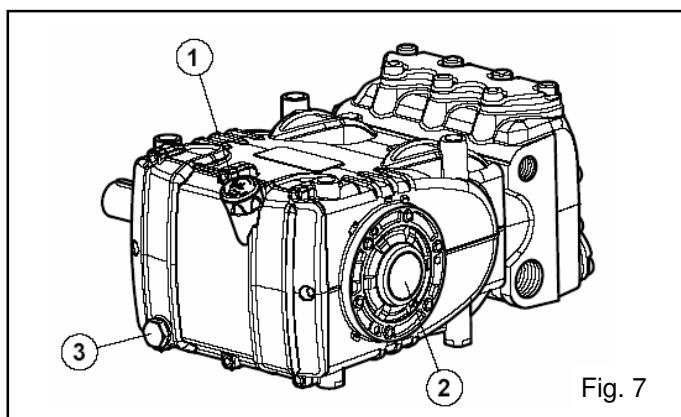

Fig. 7
7. Make sure of the correct oil level using the dipstick ( position 1 fig. 7 ) and exceptionally the oil sight glass ( position 2 fig. 7 )